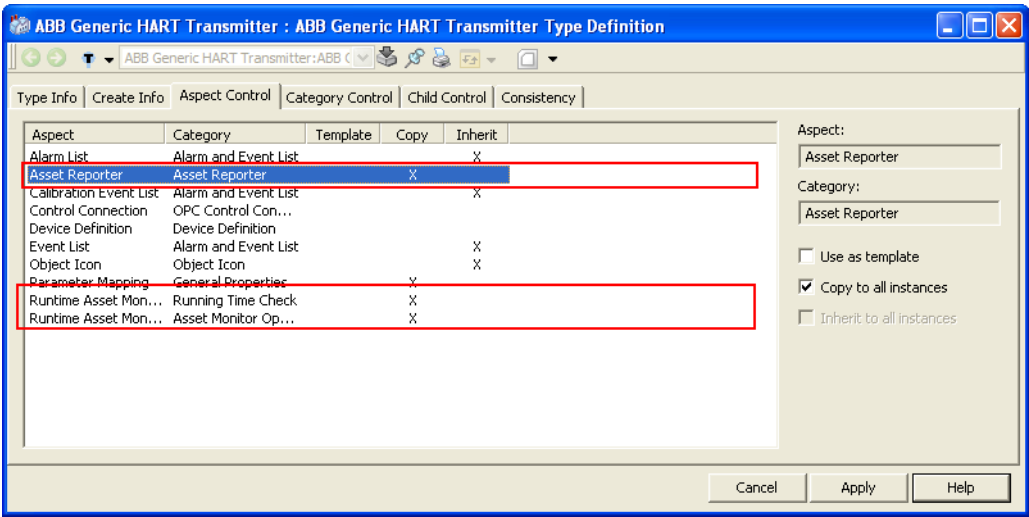

Figure 95. Type Definition Aspect
1. In order to add Runtime Asset Monitoring capability to an Object Type, the three aspects (Asset Reporter, Runtime Asset Monitor and Runtime Asset Monitor Faceplate Inputs) shown in Figure 95 are required to be added to that Object Type. For this purpose, it is recommended to copy and paste the required aspects from the Runtime Asset Monitor Object Type (**Object TypeStructure > Object Types > Asset Monitors, Object Type Group >**
Runtime Asset Monitor, Object Type) to the target Object Type. Once the aspects are copied, it is necessary to modify the Object Type Definition aspect by properly setting the newly added Aspect Instantiation attributes as shown in Figure 95.